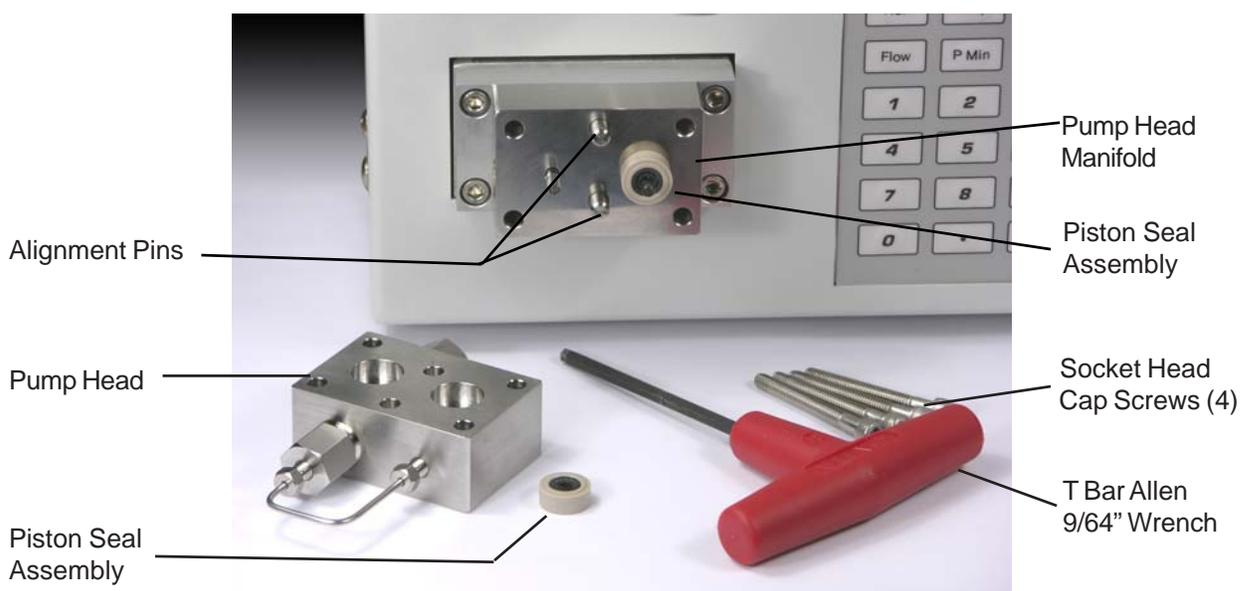

Figure 9. Piston Seal Assembly Replacement
Using the 9/64" allen wrench with a T bar handle (provided) loosen and remove the (4) socket head cap screws which connect the pump head to the manifold and spring housing. Loosen these screws evenly. Remove and pull the pump head away from the pump, alignment pins, and manifold. This step will expose the two piston seal assemblies (**figure 9**). The seals may be grasped with the finger tips and gently pulled forward and free of the sapphire piston. Use care when pulling these seals off to avoid scratching of the sapphire piston.